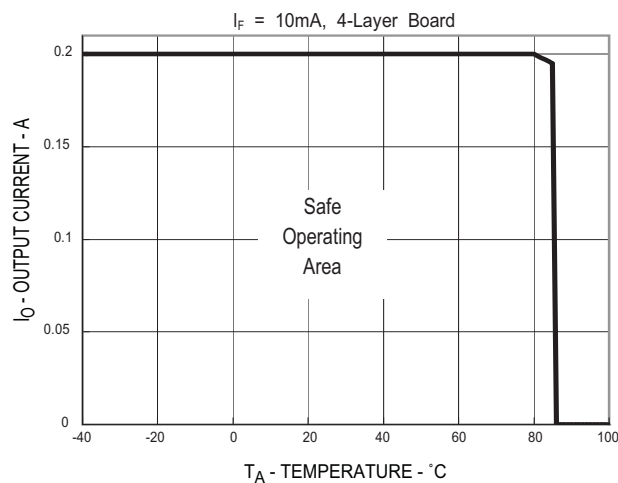

Figure 1. Maximum Output Current Rating vs Ambient Temperature (ASSR-1218-003E)
1. For derating, refer to Figure 1, 2, 3 and 4.
Figure 1, 2, 3 and 4 specify the maximum average output current allowable for a given ambient temperature. The maximum allowable output current and power dissipation are related by the expression $R_{ss} = P_o(max) / (I_o(max))^2$ from which R_{ss} can be calculated. Staying within the safe area assures that the steady state MOSFET junction temperature remains less than 125 °C.